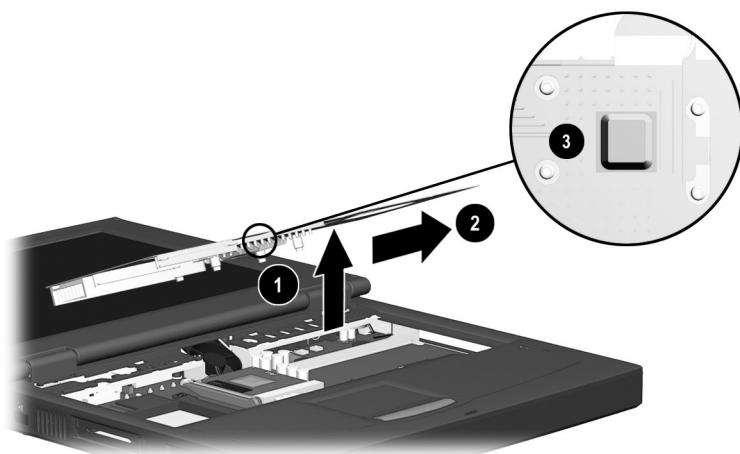

Figure 5-13: Removing the Heat Sink
3. Lift the front edge of the heat sink and swing it up and back until the shield rests at a 45-degree angle ❶ (Figure 5-13).
4. Pull the heat sink away from the base enclosure at a 45-degree angle ❷ and remove it from the base enclosure.